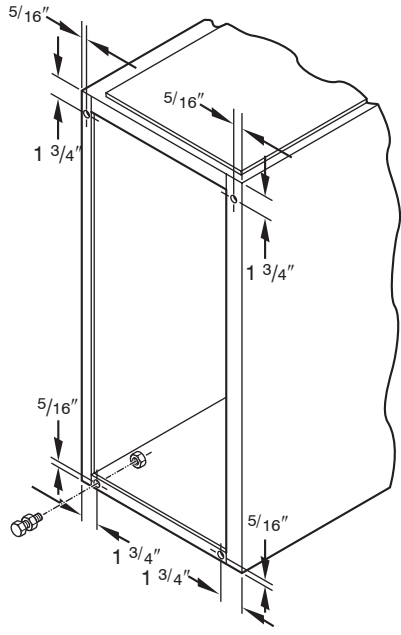

Fig. 21 - Leveling Legs
When furnace is used in upflow position with side inlet(s), leveling legs may be desired. (See Fig. 21.) Install field-supplied, corrosion-resistant 5/16-in. machine bolts and nuts.
1. Position furnace on its back. Locate and drill a 5/16-in. (7.9 mm) diameter hole in each bottom corner of furnace. (See Fig. 21.) Holes in bottom closure panel may be used as guide locations.